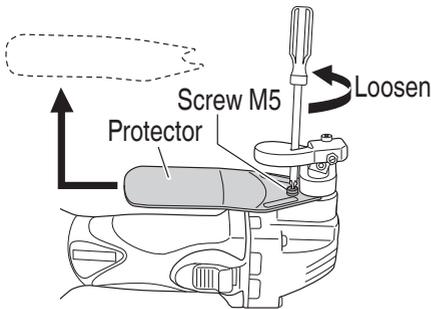

Fig. 13
- (1) Remove the M5 screw, then remove the protector. (Fig. 13)